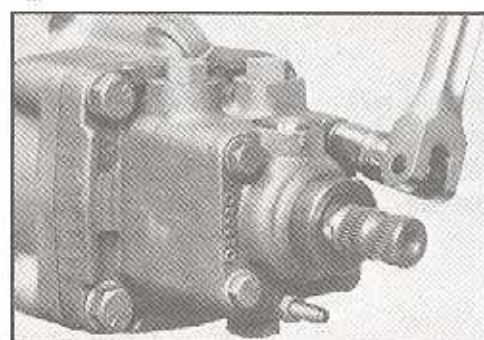

Figure 58
15. Loosen the four upper cover bolts (7A) and poppet adjusting screw nut (6) for later removal. A 9/16 inch and 1/2 inch socket required. SEE FIGURE 58.